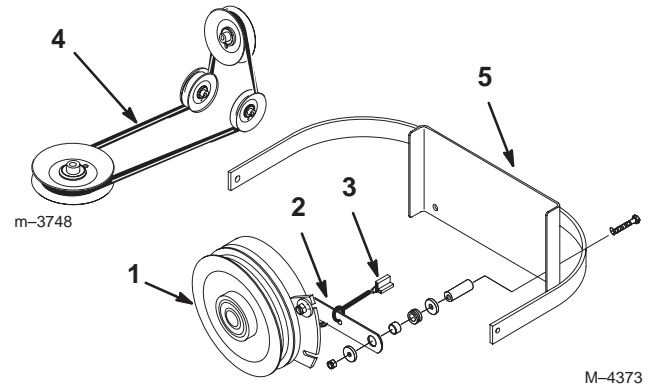

Figure 67
2. Remove the clutch retaining strap from machine frame and unplug clutch terminal from wire harness (Fig. 67).
7. Install clutch retaining strap and plug clutch terminal into main wire harness (Fig. 67).